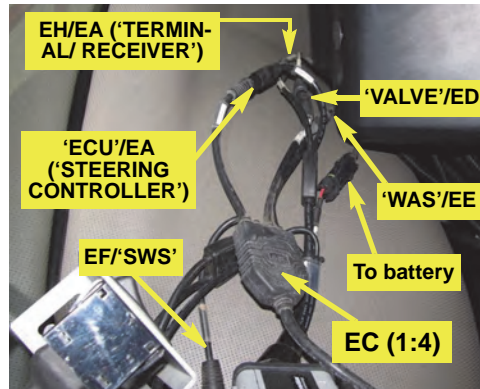

Figure 2a: ECU/steering controller connections
c. Connect **EC**'s connector labeled 'ECU' to **EA**'s connector labeled 'STEERING CONTROLLER' (Figure 2a).
d. Install WAS cable **EE** between **EC**'s connector labeled 'WAS' (Figure 2a) and wire connector **WB** on the rear axle. See step f for details.
e. Install SWS cable **EF** between **EC**'s connector labeled 'SWS' (Figure 2a) and steering wheel switch connector **SD**. Route **EF** forward then, under the floor mat, past the right window and across the front right window (Figure 2b and right inset) to the steering column. Using cable ties **SE** as required, join **EF** and **SD** in the lower steering column space (Figure 2b, left inset).
h. Connect CAN-PWR cable **EH** to **EA**'s open connection labeled 'TERMINAL/RECEIVER' (Figure 2a). Route the cable in the cab so that it is clear of any machine operation controls. Connect the opposite end of cable **EH** to the guidance terminal.